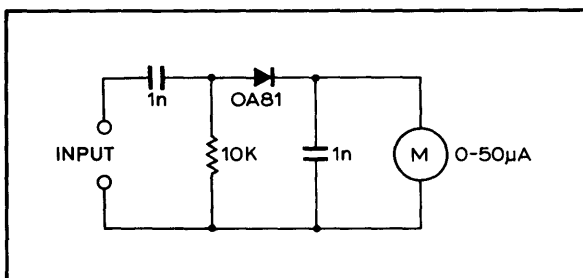

Fig. 14 Diode Probe
* Where the Pye Test Set type TM1 is not available an H. F. valve voltmeter or diode probe used in conjunction with a 0-50 μ A meter (see Fig. 14) will be required.